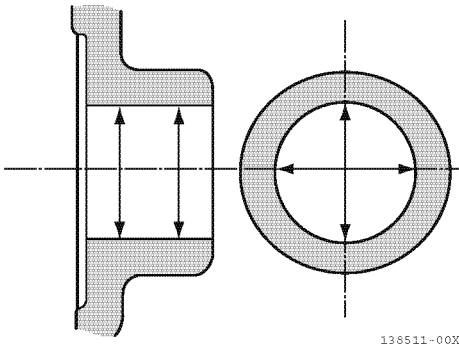

Figure 6-75
6. Measure the diameter of the wrist pin bore on both sides of the piston (**Figure 6-75**). See *Piston* on page 6-10 for specifications. Record the measurements.